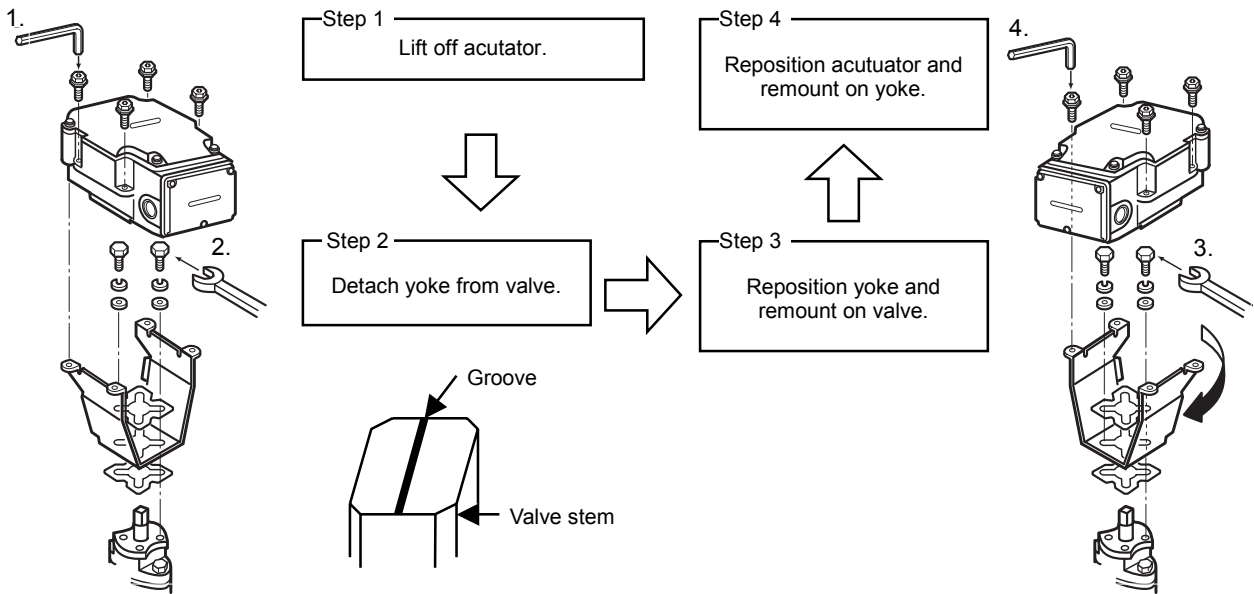

Figure 6. Changing the actuator mounting position
- 2) Remove the screws connecting the actuator and the yoke. Lift the actuator and detach it from the yoke. (Make sure that the groove at the top of the valve stem is parallel (in fully open position) to the piping.) <Step 1 in Fig. 6>
- 3) Remove the screws connecting the yoke and the valve body. <Step 2 in Fig. 6>
- 4) Change the direction of the yoke to the desired direction. The actuator can be horizontally rotated every 90° to fit into the valve mounting position (0°/90°/180°/270° from the factory preset position). <Step 3 in Fig. 6>
- 7) Mount the actuator, with its direction changed, to the yoke. <Step 4 in Fig. 6>